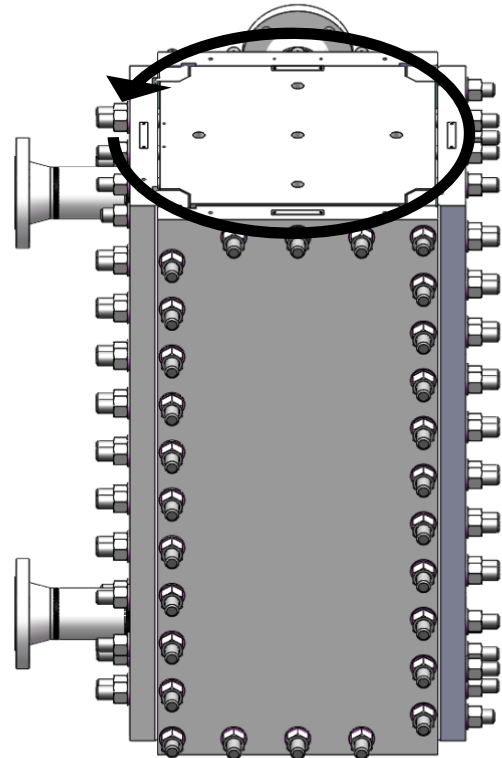

Figure 18
- Respect pre-tightening sense as on figure 18.